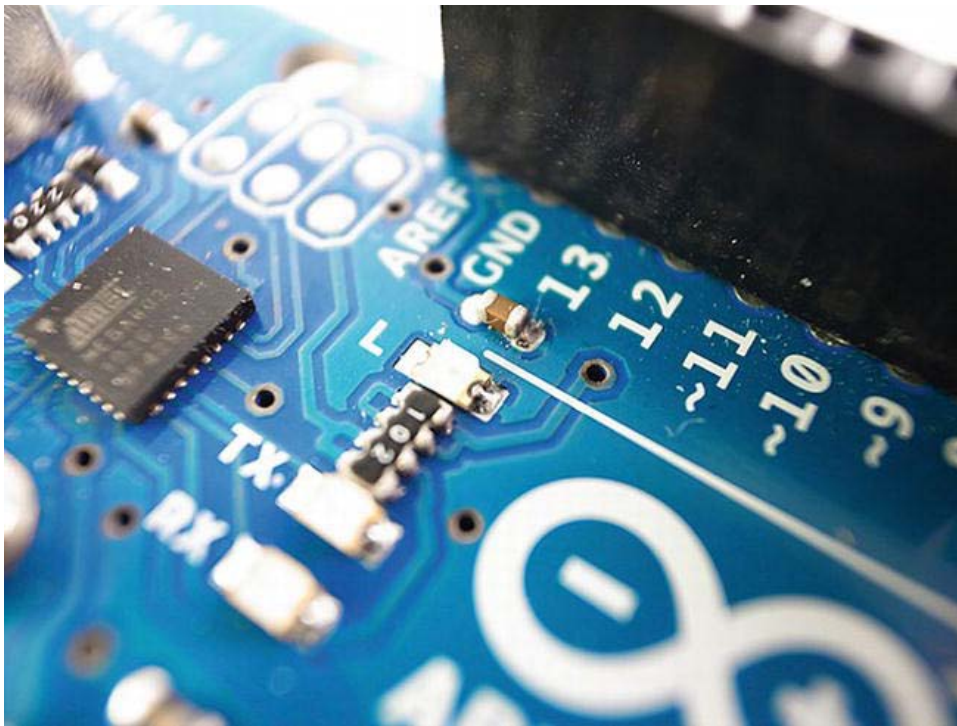

Figure 3-20. Pin 13 has an onboard LED connected to it.
5. Check that the LED next to pin 13 is blinking (the LED is shown in Figure 3-20).